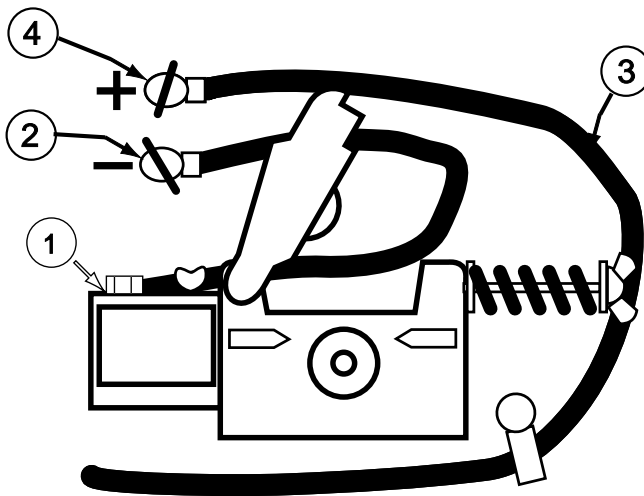

FIGURE A.4
2. Pass the end of the work cable that has the terminal lug with the smaller hole through the Work Cable Access Hole (1) in the case front.
3. Route the cable under and around the back of the Wire Feed Gearbox (6).
4. **For Innershield Only:** Refer to Figure A.4. As delivered, The machine is connected for negative polarity (required for the Innershield process), connect the short cable attached to the connector block (1) to the negative (-) output terminal (2) and the work cable (3) to the positive (+) terminal (4).